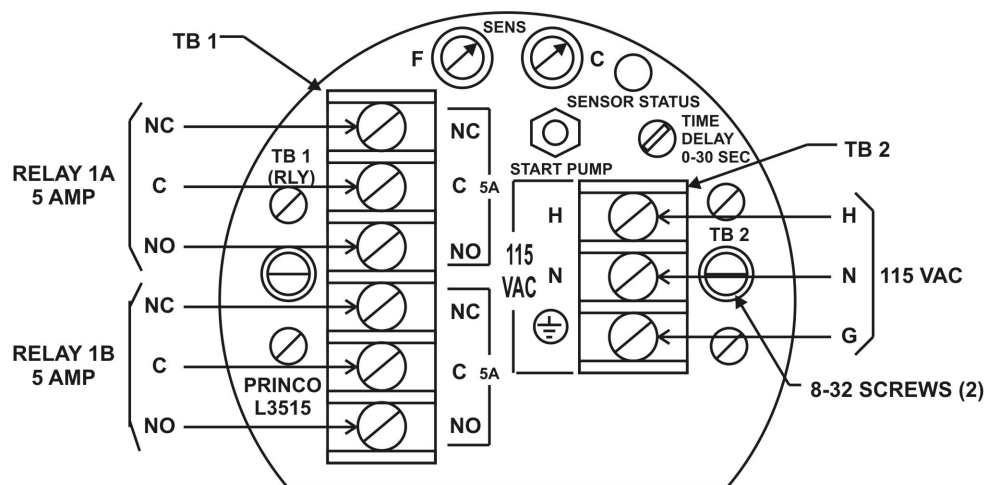
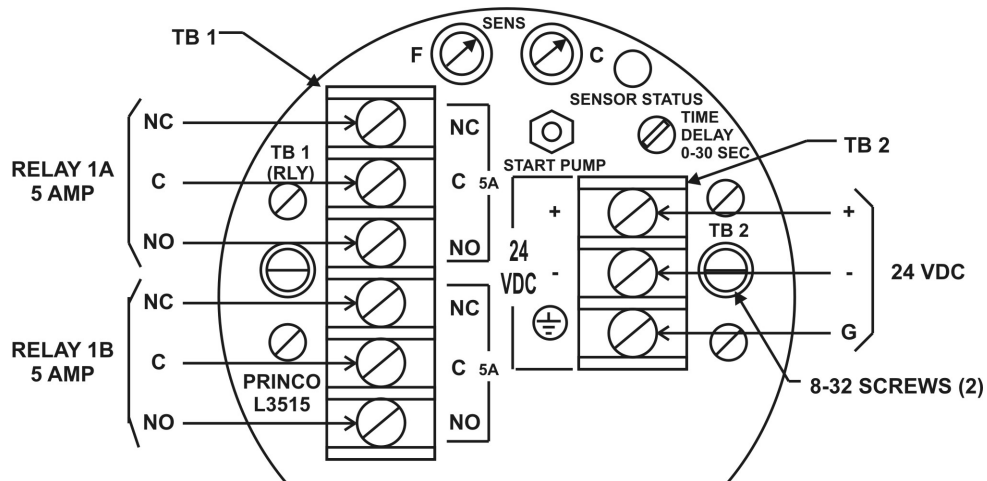

Figure 3-9. Electrical Connections (115Vac & 230Vac Units)
Figure 3-10. Electrical Connections (24Vdc Unit)
Connect the 115Vac or 230Vac power line wires: Hot (H), Neutral (N), and Ground (G) respectively, to the right terminal strip (TB2) as shown in Figure 3-9. If the unit requires 24Vdc for power, the terminal strip TB2 is labeled as plus (+), minus (-) and ground (G). Connect 24Vdc power accordingly per Figure 3-10.
Connect the normally open (NO), normally closed (NC) and common (C), relay wires to the left hand terminal strip (TB1) as shown in Figure 3-9 and Figure 3-10, and as required by the specific pump motor control circuit. Most pump control and protection applications use the normally open (NO) contacts to break power to the pump if/when the pipeline runs empty. The equipment installer should keep in mind that all L3515 units are factory set to operate in the Fail Safe LOW mode, unless otherwise specified.
The relay contact configuration, shown in Figures 3-9 and 3-10, and labeled on the instrument circuit board, is identified as such with the relay in the de-energized (shelf) state. Fail-safe operation requires relay to be normally in the energized (non-shelf) state. Upon alarm, configured as either HIGH or LOW, the relay then becomes de-energized (shelf state), as per Figure 3-9, 3-10 and TB1 labeling.